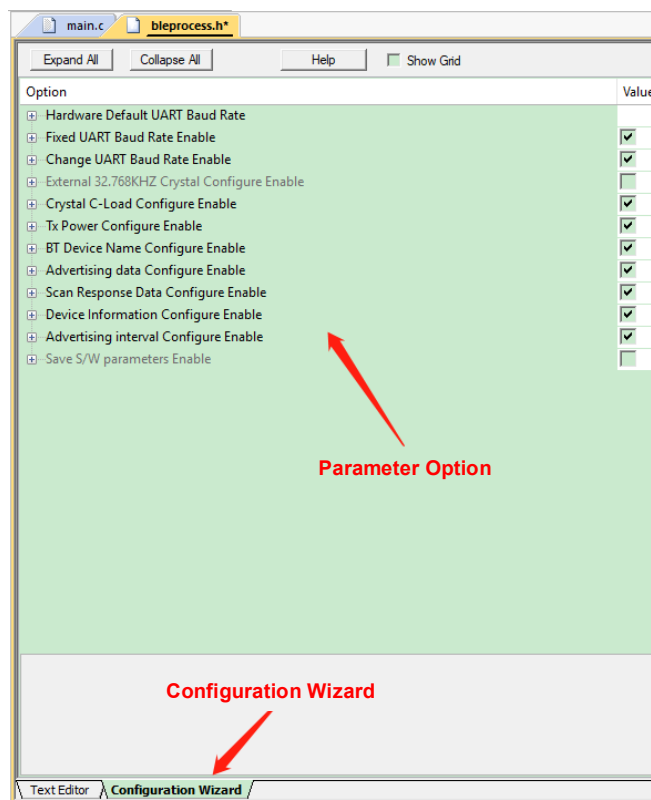

Figure 10
1. Open the bleprocess.h file and click “Configuration Wizard” to enter the “Bluetooth Parameters” setting page, as shown in Figure 10. Each parameter option will be described in detail in the next section.